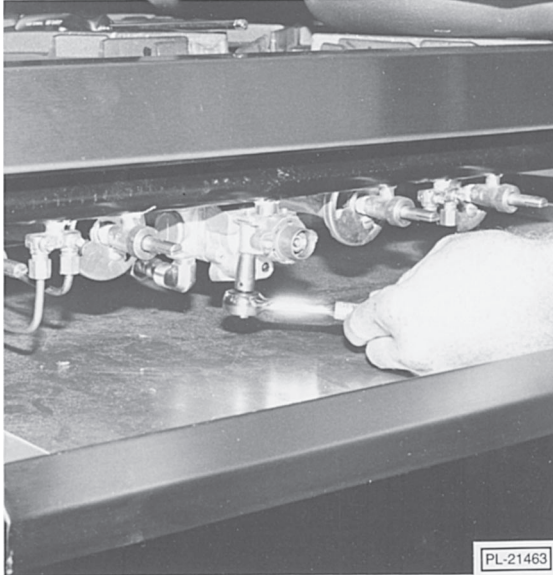

Fig. 33
9. Unscrew the thermostat from the manifold pipe (Figs. 33, 34, & 35).